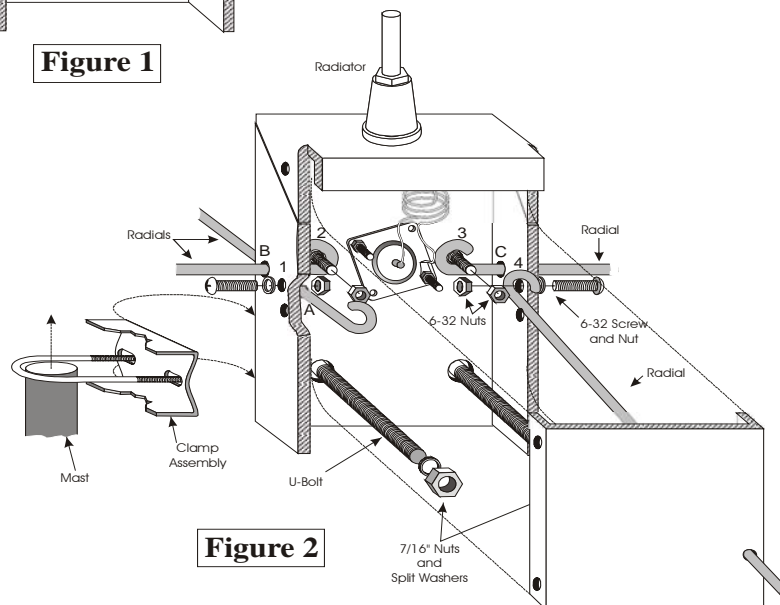

Figure 2
- 7- The clamp assembly should be assembled as shown in Figure 2.
To mount the antenna on the mast, insert the mast into the clamp as shown in figure 2. Make sure that the mast is mounted on the front of the chassis, as shown in figure 2.
If the antenna needs to be adjusted, first remove the cover of the antenna and loosen the radiator retaining nut (see Figure 2). If the SWR is lowest on a frequency above the desired operating frequency lengthen the radiator. If the SWR is lowest on a frequency below the desired operating frequency, shorten the radiator.